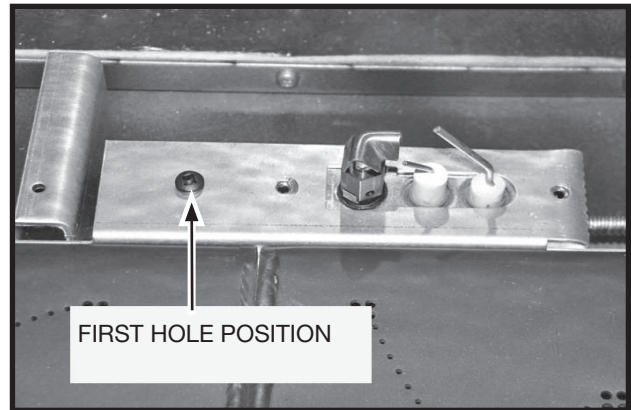

Figure 5: Attaching pilot to burner tray.
2. Ensure that the Pilot is attached to the burner support rail with a screw in the first hole (Figure 5).